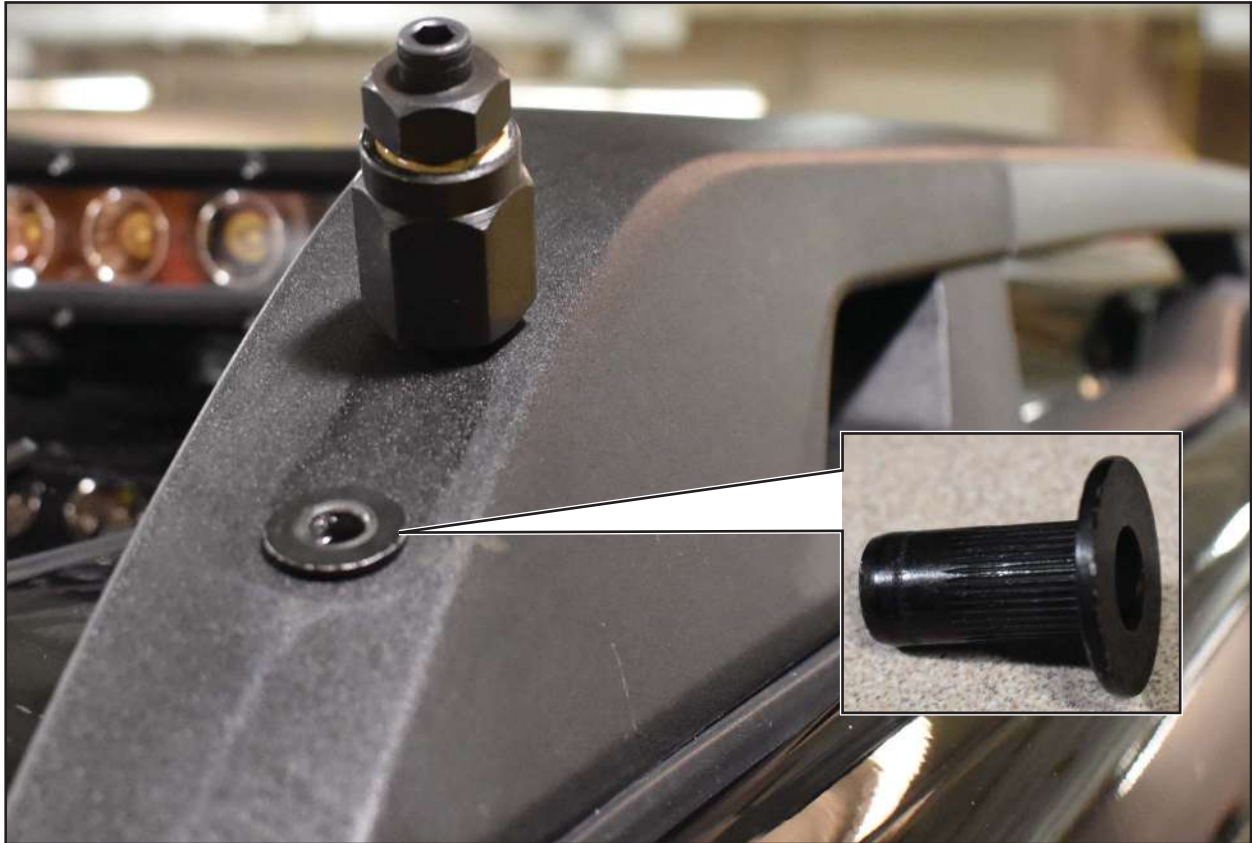

FIGURE 48
48. Install the supplied rivnut into the hole drilled into the side rail. See figure 48.